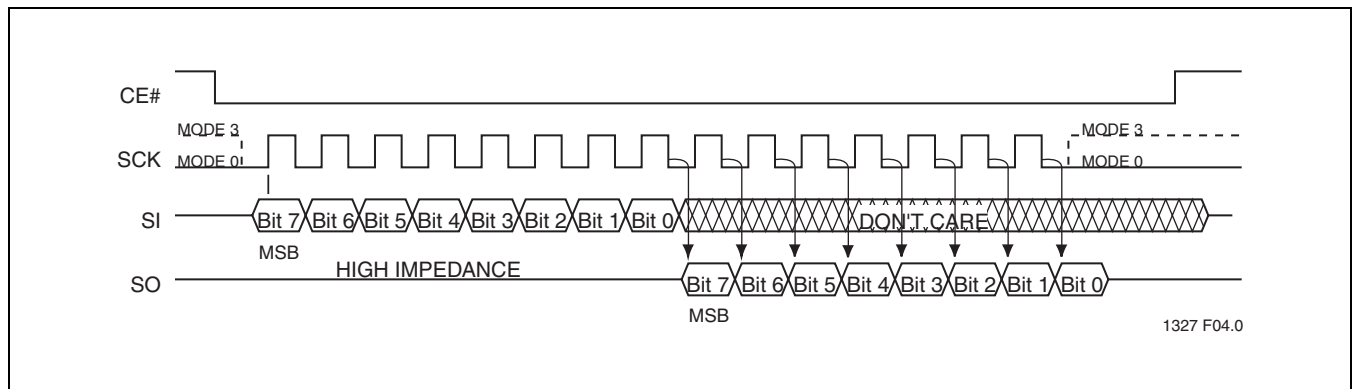

FIGURE 3: SPI Protocol
The ÚÔT25VF032B supports both Mode 0 (0,0) and Mode 3 (1,1) of SPI bus operations. The difference between the two modes, as shown in Figure 3, is the state of the SCK signal when the bus master is in Stand-by mode and no data is being transferred. The SCK signal is low for Mode 0 and SCK signal is high for Mode 3. For both modes, the Serial Data In (SI) is sampled at the rising edge of the SCK clock signal and the Serial Data Output (SO) is driven after the falling edge of the SCK clock signal.